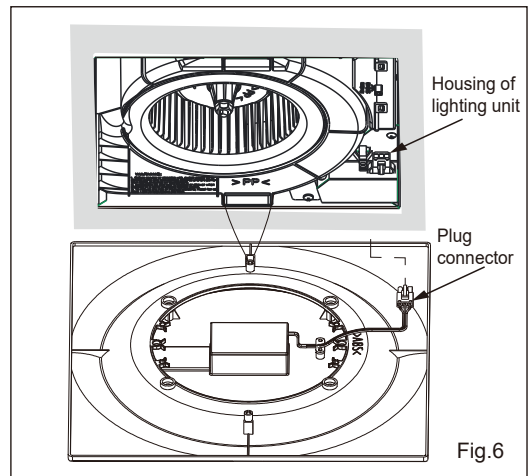

Fig.6
- Insert the grille mounting spring on the wiring side into the slot, then insert the plug connector into the housing of the lighting unit. (Fig.6)